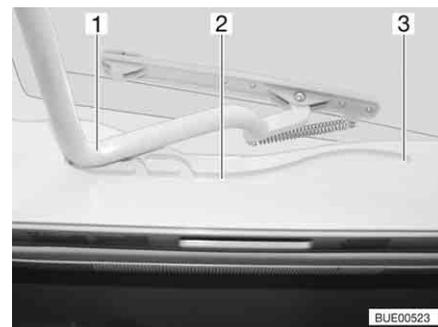

Fig. 64 Heki skylight, guide
- Pull the bar (Fig. 64,1) in the guides (Fig. 64,2) to the rearmost position (Fig. 64,3).
- Use both hands to push the bar (Fig. 64,1) slightly upwards.
- Pull the bar in the guides (Fig. 64,2) to the desired position.